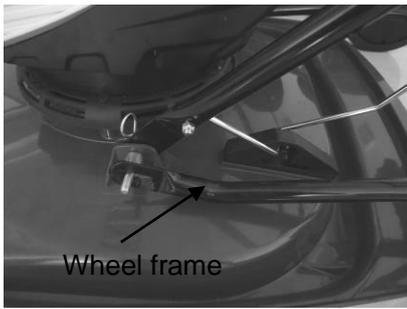

Fig.3A
1. Remove the locking knob. (Fig. 3A)